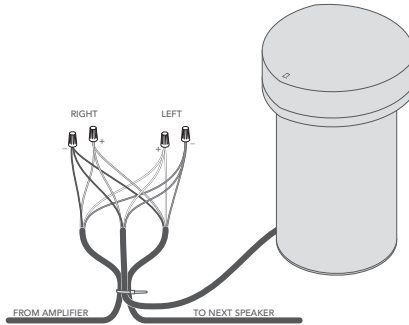

Figure 9
- As with the satellite speaker installation, create a loop approximately 10" in length, pulling the wire from the spool side. Leave 14-16" of excess wire so that the wire doesn't kink or pull taut when covering the wire with dirt in the trench. Use a wire tie to hold the wire loop in place and provide strain relief (see Figure 9).